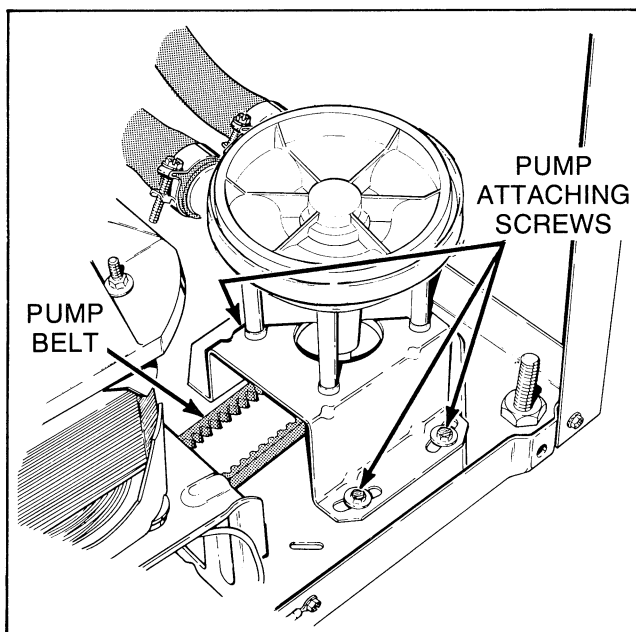

Figure 40
- Loosen the two front mounting screws, *Figure 40*, then loosen the rear screw.